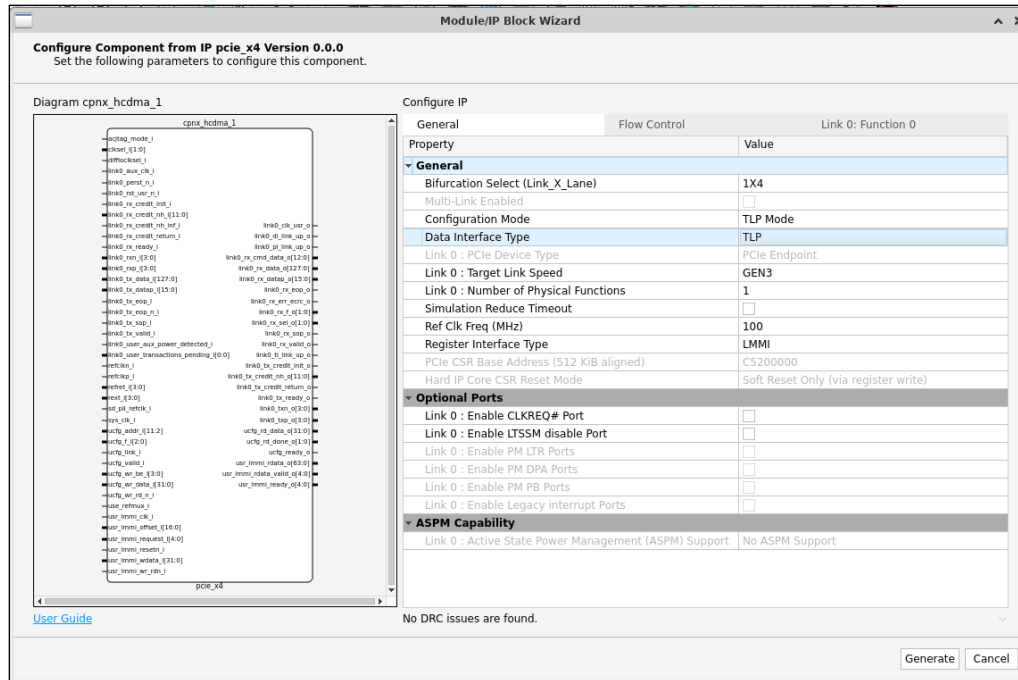

Figure 7.2. IP Configuration
3. In the next **Module/IP Block Wizard** window, customize the selected PCIe x4 IP using drop-down lists and check boxes. Figure 7.2 shows an example configuration of the PCIe x4 IP. For details on the configuration options, refer to the IP Parameter Description section.